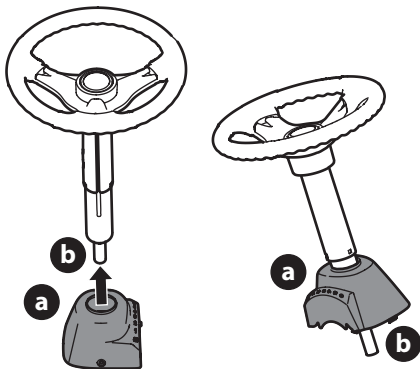

Figure 3
1. Slide the pedestal cap (a) onto the steering shaft (b) so that when the steering shaft (b) is installed on the riding mower, the pedestal cap (a) will be upright as shown in Figure 3.